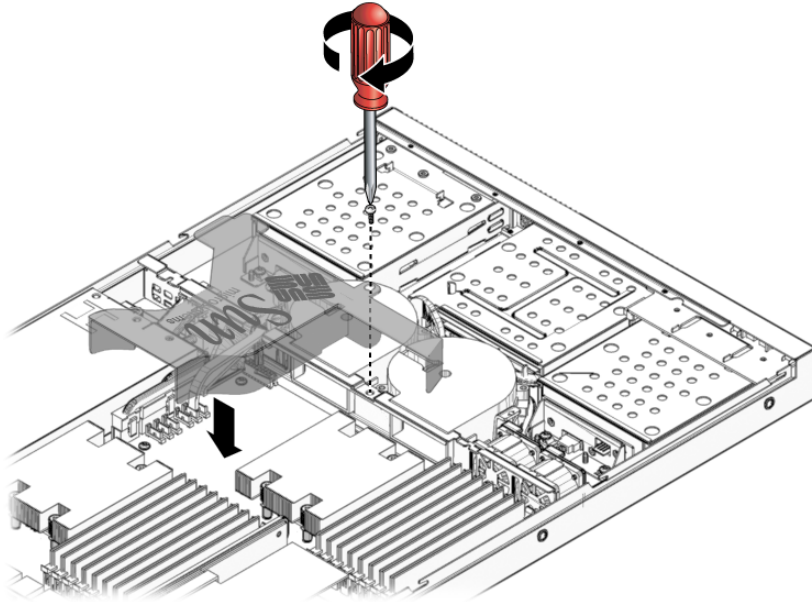

FIGURE 4-16 Air Duct Installation
1. Position the air duct as shown in FIGURE 4-16, aligning the baffle with the screw hole and opening in chassis divider.